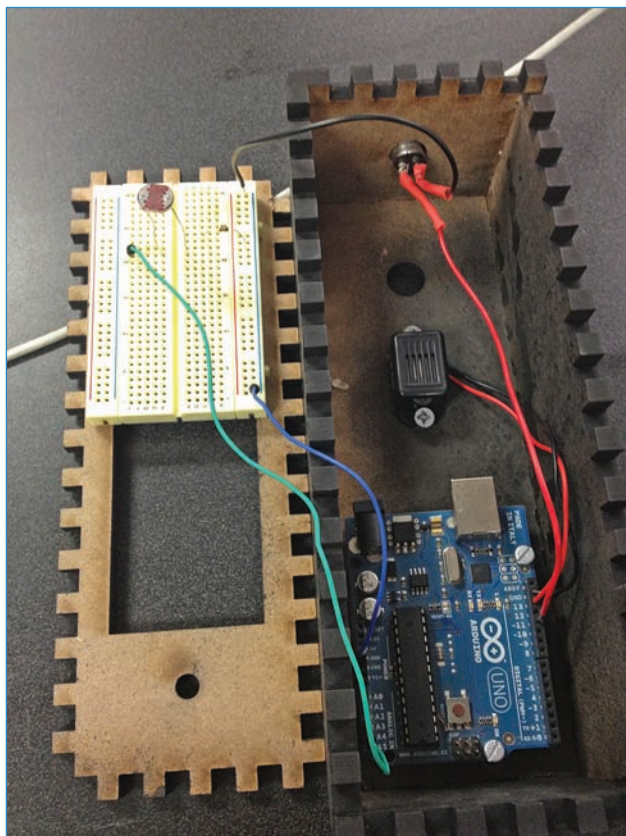

FIGURE 2.20 The sensor module enclosure with the backplate open.
1. Attach the Arduino to the front panel of the enclosure using the #4-40 screws and the standoffs. (See Figure 2.20, which shows the enclosure from the back.)